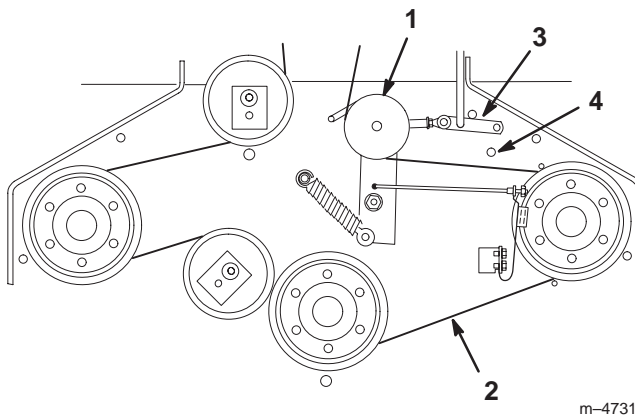

Figure 56
4. Remove the idler pulley and the worn belt (Fig. 56).
Note: Proper belt tension is 10–15 lb. (44–67 N) with the belt deflected 1/2 in. (13 mm) halfway between the pulleys (Fig. 56).